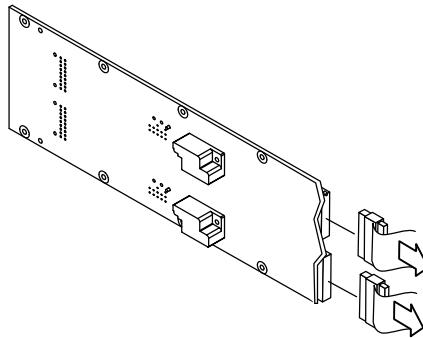

FIGURE 12-9 Disconnecting the Fan Tray Centerplane Cables
6. **Disconnect the cables to the rear fan tray centerplane (FIGURE 12-9).**
2. Connect the fan tray cable (FIGURE 12-9 on page 12-7).